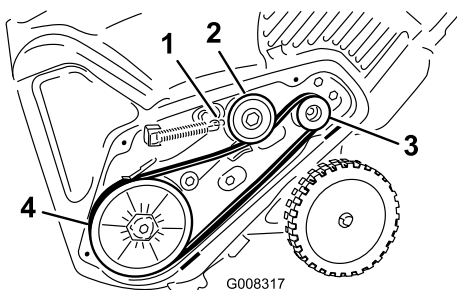

Figure 38
8. Install the brake spring onto the idler arm (Figure 38).
5. Install the new drive belt, routing it as shown in (Figure 38).